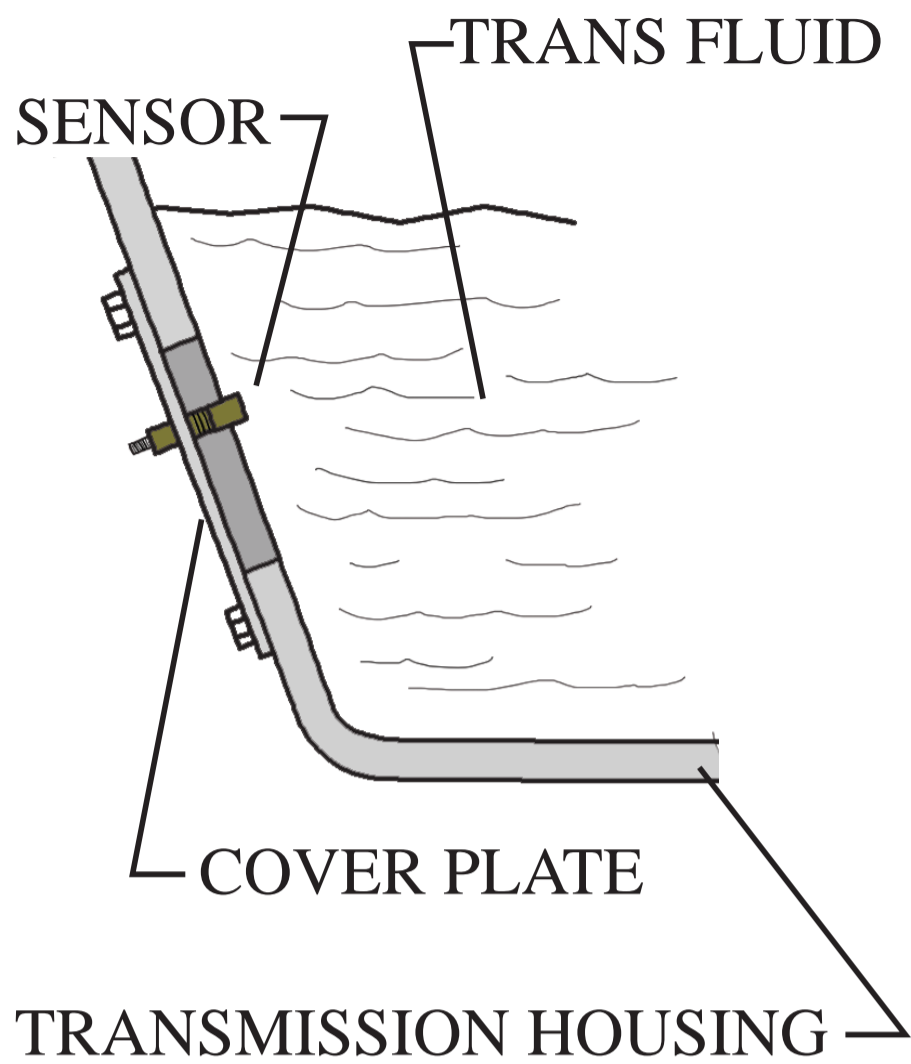

Figure 11
1) Find the best location for the sensor. Figure 11 (on the next page) gives a basic example of the temperature sensor being installed to the side plate of a manual transmission. This location is ideal for this particular install because the plate can easily be removed, modified, and reinstalled without getting any metal filings inside the transmission.)